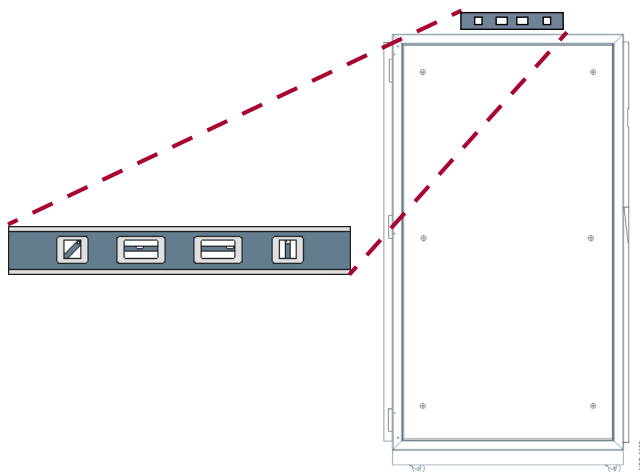

Figure 9. Positioning the Level
4. Place the level, front to rear, on the **top side edge** of the library (Figure 9).